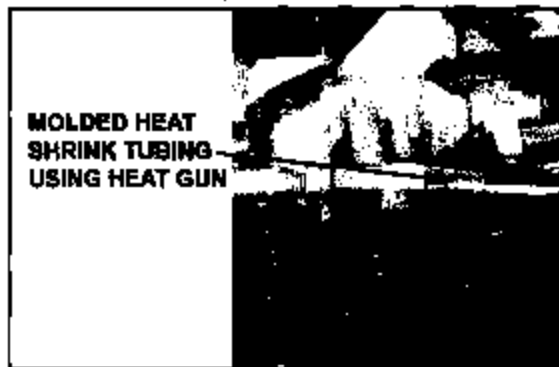

Figure 5
6. Using a heat gun, mold the heat shrink tubing while maintaining a 30mm distance for 30 seconds around the diameter of the accelerator cable housing and dust cover (see figure 5). **NOTE: To avoid injury or damage, do not touch the heat shrink tubing. The heat shrink tubing and the surrounding area will be hot at contact.**